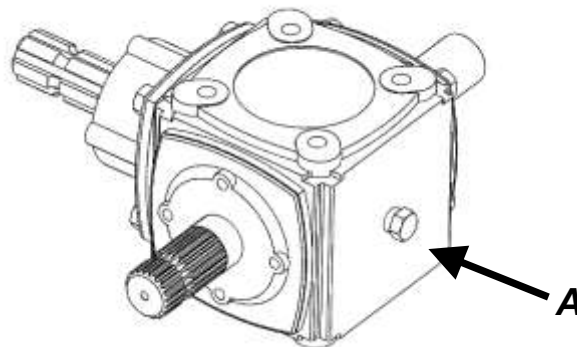

Figure 23
- ☞ The blower gearbox [figure 23, **A**] use gearbox oil A.P.I. GL5 (SAE 80W90) or synthetic oil (SAE 75W90). Volume: 1 liter.
Change the oil of the blower's gearbox [figure 23] at the beginning of the season. The temperature changes during the seasons create condensation inside the gearbox. When the water is in contact with the oil, it reduces the efficiency of the oil.
To do an oil change, remove the oil from the gearbox with a manual suction pump. Fill the gearbox with gearbox oil A.P.I. GL5 (SAE 80W90) or synthetic oil (SAE 75W90) until the oil comes out of the oil level plug [figure 23, **A**]. Verify the oil level every 50 hours and fill it up if needed.